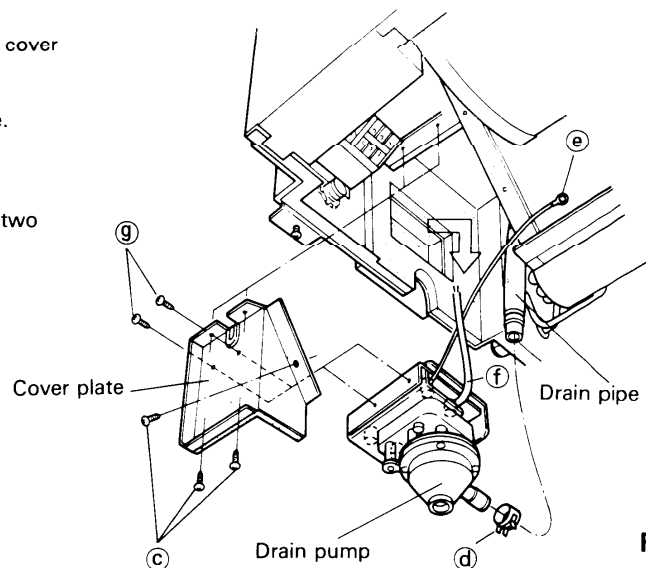

Fig. 9
- (3) Remove the three screws ③ and pull out the cover plate and the drain pump in arrow direction.
- (4) Remove the clip ④ connecting the drain pipe.
- (5) Remove the earth ⑤ and the lead wire ⑥.
- (6) For exchange of the drain pump, remove the two screws ⑦. Installation is executed in reverse order of the removal. Fig. 9